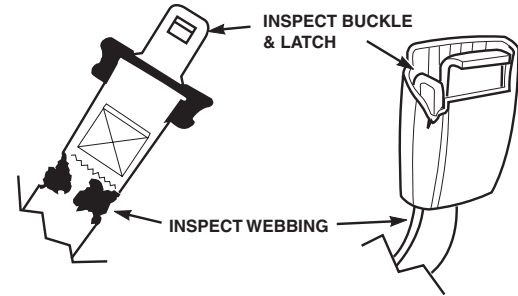

Figure 2-1 Seat Belt Inspection
1. Check the full length of the seat belt webbing for cuts, wear, fraying, dirt and stiffness. See Figure 2-1.
3. Check the buckle and latch for proper operation and determine if the latch plate is excessively worn, deformed, or if the buckle is damaged or cracked. See Figure 2-1.